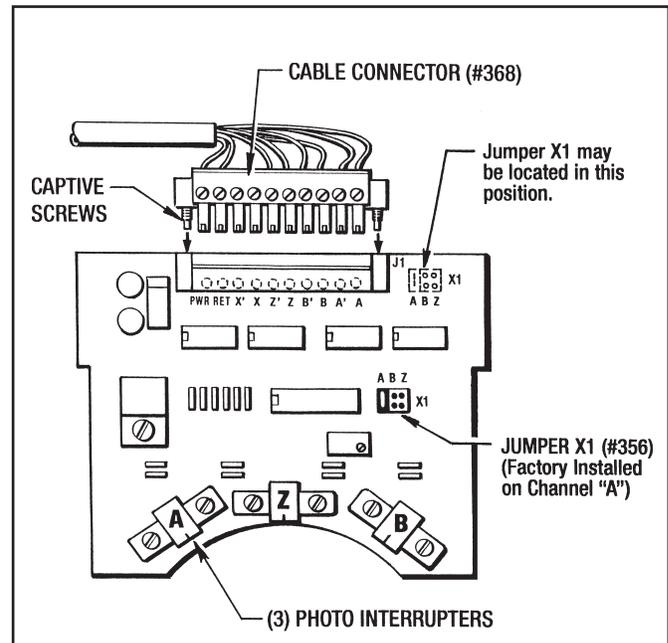

Figure 7.2 - Circuit Board Connector
- Take out the (4) Screws (#225) and remove the Top Cover (#372) and the upper Gasket (#19) from the Upper Enclosure (#18). This gasket is reusable.
- Loosen the (2) captive screws in the Cable Connector (#368) and unplug it from the Circuit Board (#355). (See Figure 7.2)